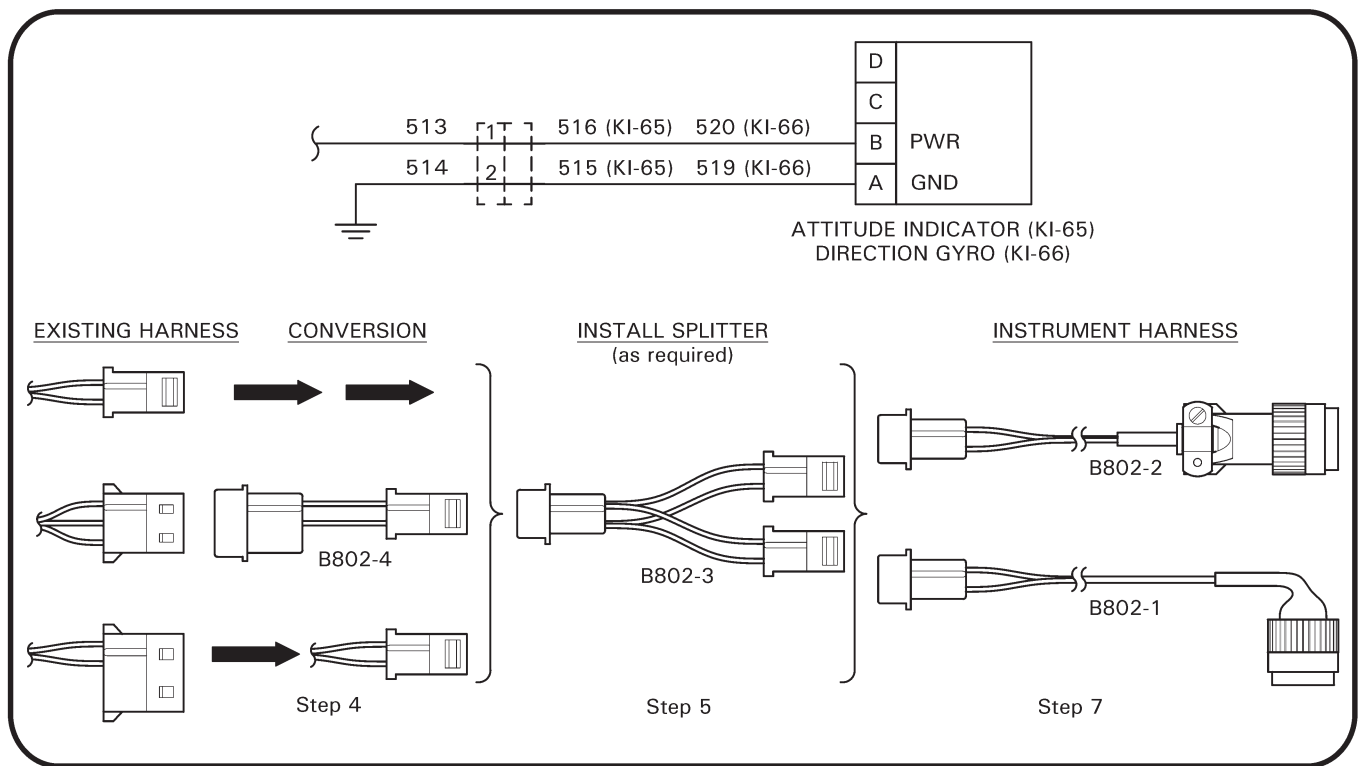

FIGURE 1 Harness connections and schematic
4. Refer to Figure 1. As applicable, locate in upper console's wiring harness either 2-socket housing containing [power] wire (-513) & [ground] wire (-514), or 3-socket housing containing wires (-513), (-514) & (-525), or 4-socket housing containing wires (-513) & (-514). Remove housing's heat shrink covering. If 2-socket housing, proceed to next step. If 3-socket housing, install B802-4 adapter; wire (-525) will not be used. If 4-socket housing, extract sockets and attached wires (-513) & (-514) using provided pin extractor; install socket & wire (-513) in position 1 of provided B263-13 2-socket housing and install socket & wire (-514) in position 2.
6. As applicable, remove B190 plastic hole cover and mount attitude indicator in upper optional instrument location with (3) MS24693-S30 screws, and mount directional gyro in lower optional instrument location with (3) MS24693-S26 screws.